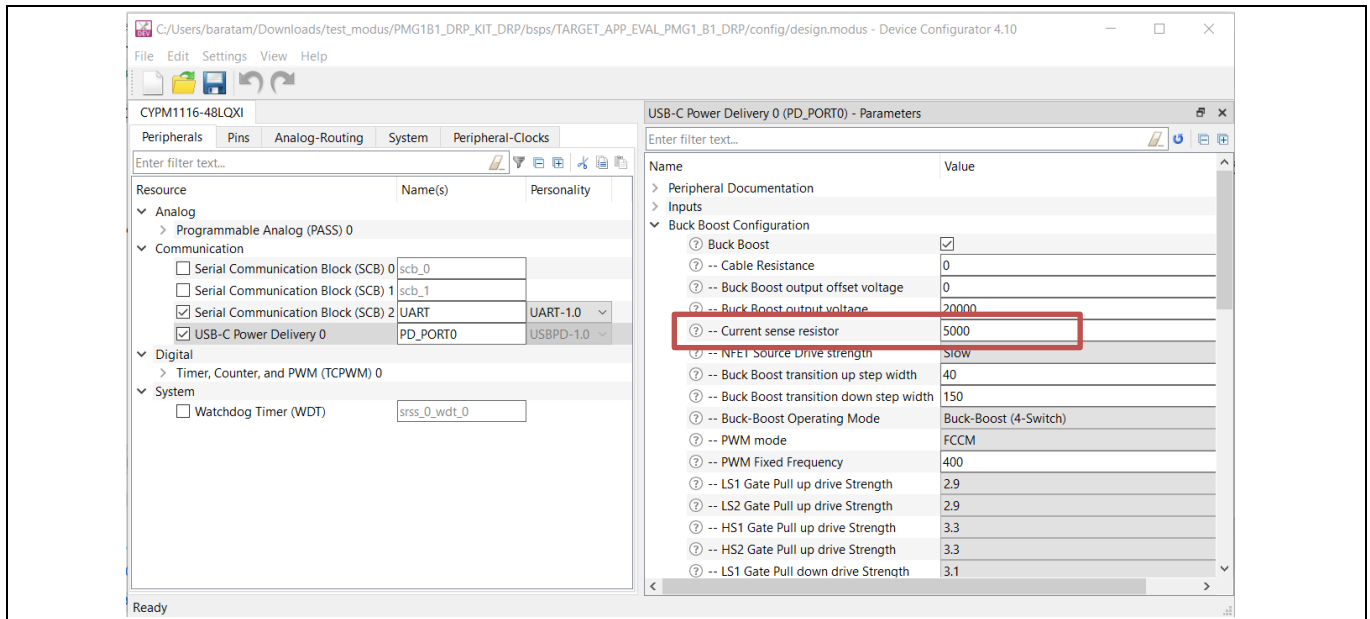

Figure 22 Modifying current sense resistor value using Device Configurator
- Modify the current sense resistor value through the Device Configurator to 10000, as shown in Figure 22.